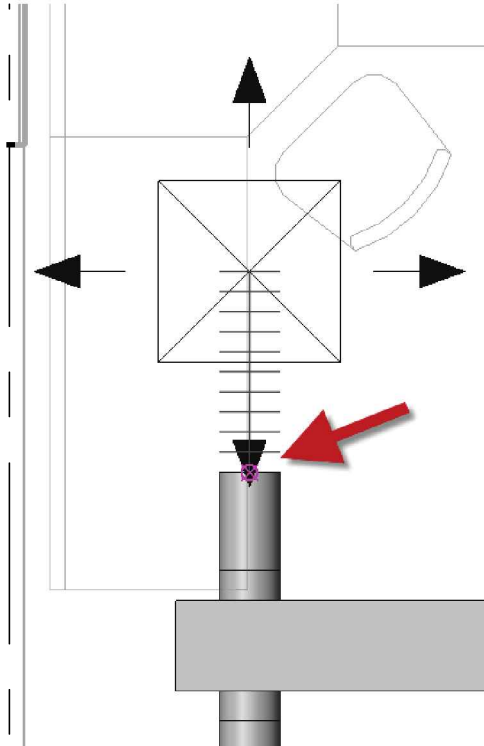

FIGURE 13-4.12 Modeling flex duct
38. **Select** the “solid” round duct the upper-left corner (Figure 13-4.12).